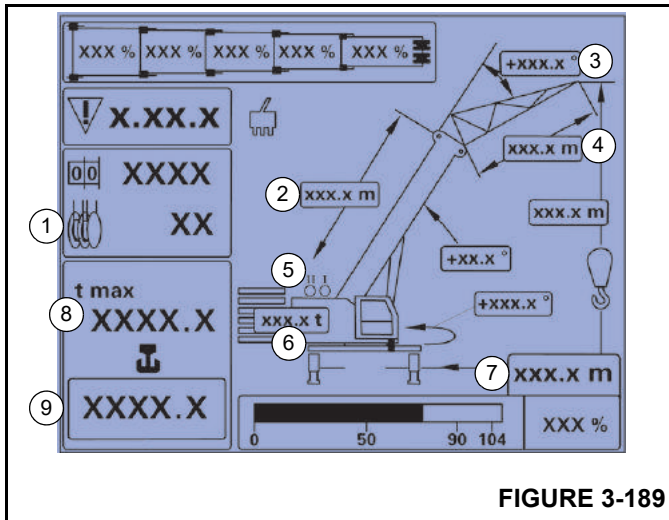

FIGURE 3-189
After entering the above information into the RCL, check that the following displayed values correspond with the actual rigging configuration of the crane (Figure 3-189) in the Monitoring submenu, *RCL Monitoring Submenu*, page 3-86:
When the telescopic sections are telescoped to a fixed length during operation with a luffing jib, the RCL changes the current value as determined by the Load Chart and displays the maximum load value (8) (Figure 3-189).